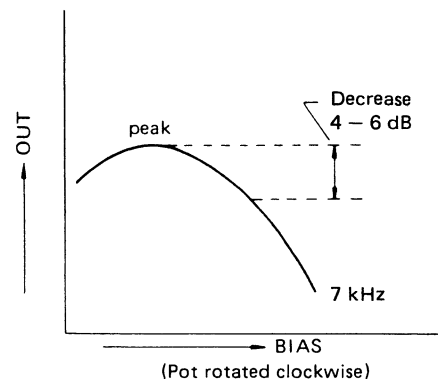

Fig. 2-15. Bias Limit Chart
6. Begin adjustment by turning the trimmer (C134) completely counterclockwise. Next, loosen and turn the trimmer clockwise and the AF level meter will rise to give peak reading. Slowly continue the clockwise rotation until the reading on the level meter drops 4 — 6 dB from the peak reading as shown in Fig. 2-15.